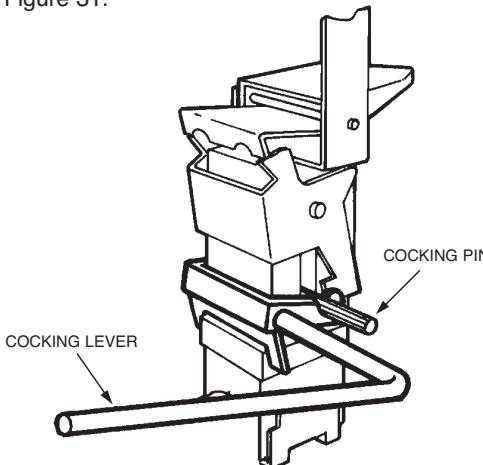

FIGURE 31
- 10. Insert cocking lever (Part No. 14995 or Part No. 435603) on left side of the release mechanism, with the movable flange resting securely against the corner of the cartridge receiver and spring housing, and with the notched lever portion engaging the cocking pin on **both** sides of the release mechanism. See Figure 31.